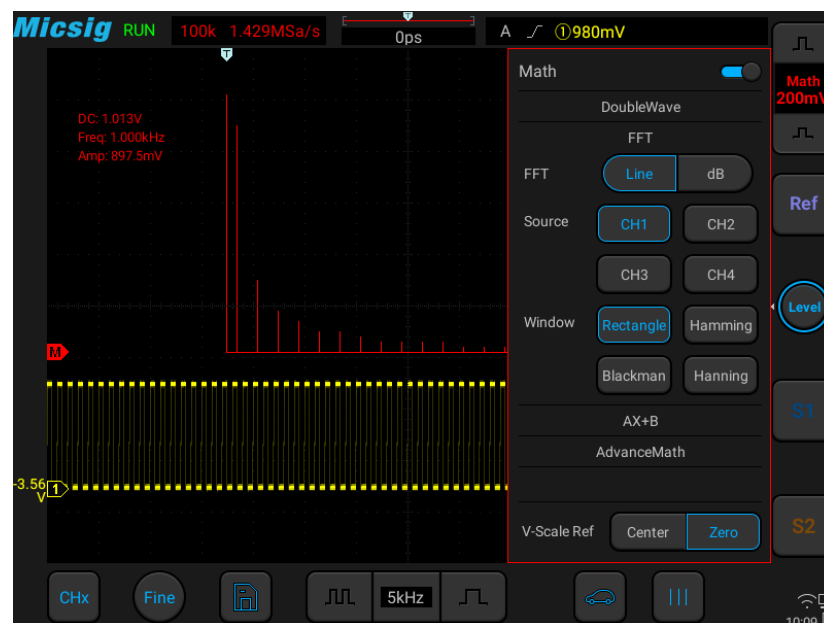

Figure 10-3 FFT Window
- 2) Tap  spectrum type “Line/Decibel” to open the FFT window (see Figure 10-3 FFT Window).